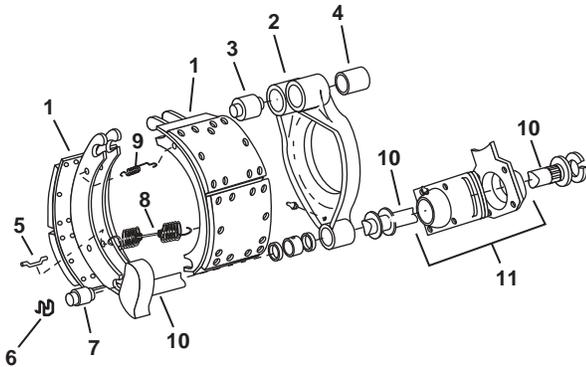

Figure 24. Brake Components
Grease the anchor pins, camshaft bracket bearing and the spider busing at four (4) grease fittings. Do Not use an excessive amount of grease on the anchor pins and spider bushing. Avoid getting grease on the brake lining surfaces. (See Figure 24)